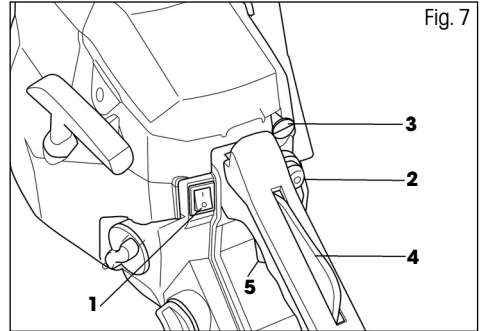

Fig. 7
1. Set the power switch to the "I" position. (see Fig. 7, point 1)
2. Repeatedly, 5x to 10x, push down the fuel primer bulb (Fig. 7, point 2), until the fuel gets into the carburettor.
3. Pull out the choke lever (Fig. 7, point 3) to the "OFF" position (=air supply turned off, i.e. choke turned on).
5. At this point, push the choke lever (Fig. 7, point 3) downwards to the "ON" position (=air supply turned on, i.e. choke turned off) and start the engine by repeatedly pulling on the starting cord.
1. Set the power switch (Fig. 7, point 1) to the "I" position.
- ✿ To increase speed, first use the palm of your hand to push down the throttle safety switch (Fig. 7, point 4) and then use your finger to pull on the throttle trigger (Fig. 7, point 5)
- ✿ Release the throttle trigger (Fig. 7, point 5) and switch the power switch (Fig. 7, point 1) to the "0" position.